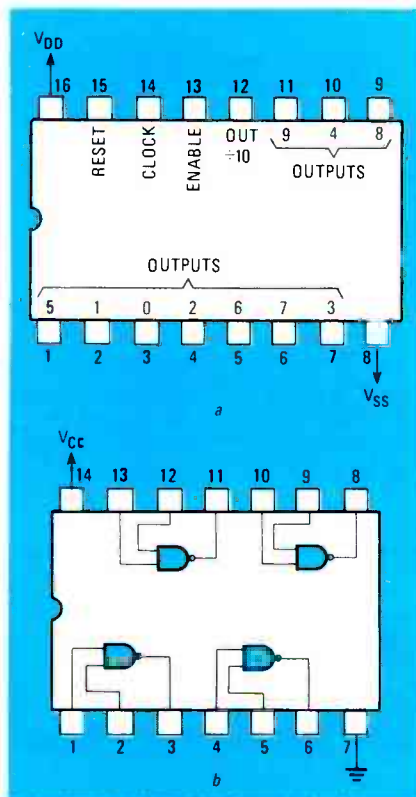

FIG. 18—PINOUT OF 4017 counter is shown in a; that of 7400 in b.
After turning the tester on, since you'll be checking out a CMOS device, set the TTL/MOS switch to MOS. **Do not insert the IC yet!** Next, refer to your manual for the 4017 pinout. In this case, you can use Fig. 18-a.
Step 2: Look up the IC in your databook. (For your convenience, the pinout is indicated in Fig. 18-b.) Study the illustration.